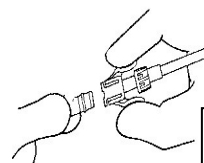

Figure 5
7. With one hand, hold your catheter by the hub and with your other hand squeeze the “wings” of the locking blunt cannula together and insert it into the cap of your catheter (figure 5).
3. With one hand, hold your catheter by the hub and with your other hand squeeze the “wings” of the locking blunt cannula together and gently pull (figure 5).